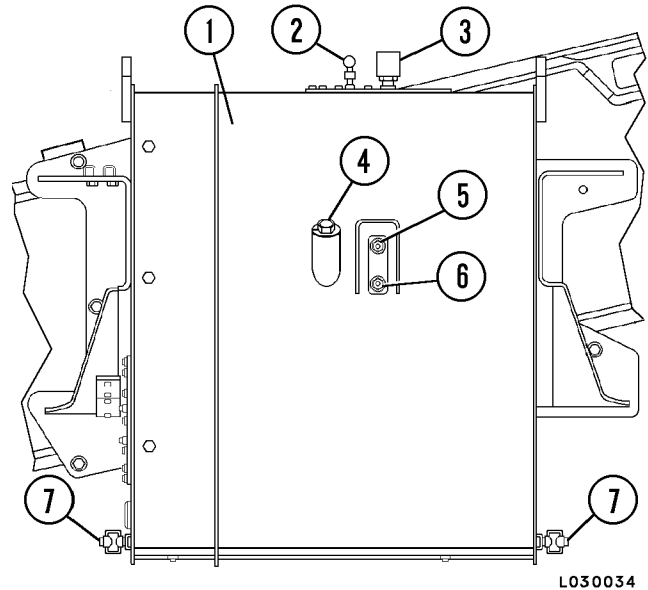

FIGURE 4-1. HYDRAULIC TANK
2. Depress relief valve (2, Figure 4-1) for 30 - 45 seconds to release any internal tank pressure. Turn the oil filler cap (4) slowly counterclockwise to release any possible residual tank pressure.
3. Refer to "Lubrication Chart", Lube key "C". Fill tank with recommended oil, until oil is visible in the TOP sight glass (5).